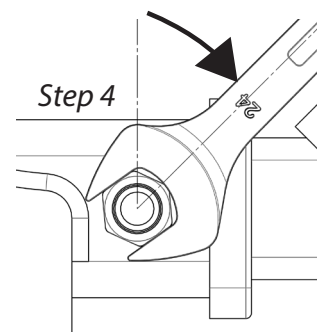

Fig 4. Tightening of Silent Anti-Rattle Hitch Pin Nut
- f. Remove plastic step to gain access to 5 plastic scrivers to be removed, refer figure 4.
Tighten HITCH PIN NUT by turning nut a further 1/8th of a turn in the clockwise direction using a 24mm spanner (Fig. 4).